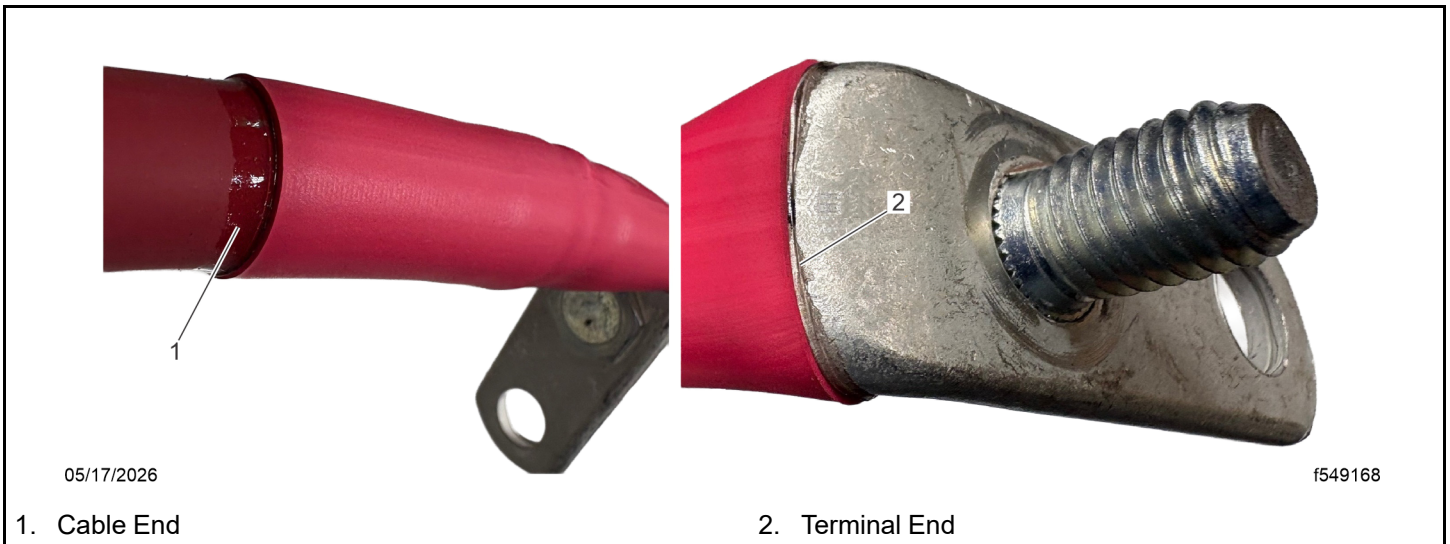

Fig 28, Continuous Adhesive Seal at Cable and Terminal Ends
- c. Confirm a continuous ring of adhesive can be seen around the circumference of the sleeve at both ends. See Fig. Fig. 28.